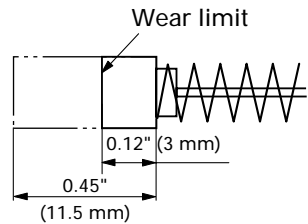

Fig. 26
4. Inspecting the carbon brushes (Fig. 26)